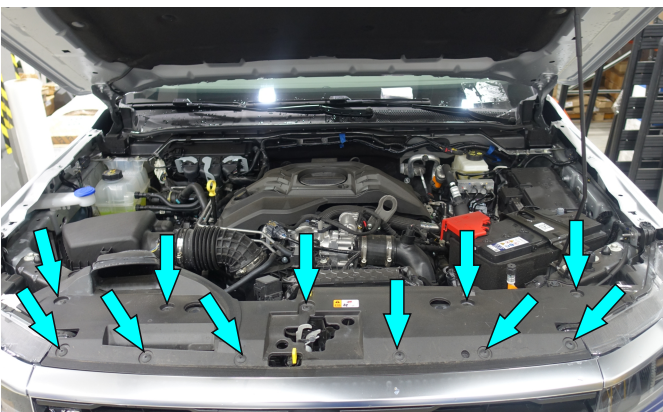

Fig.98
96. Install factory plastic pad clip and secure it using factory clips (fig.98).